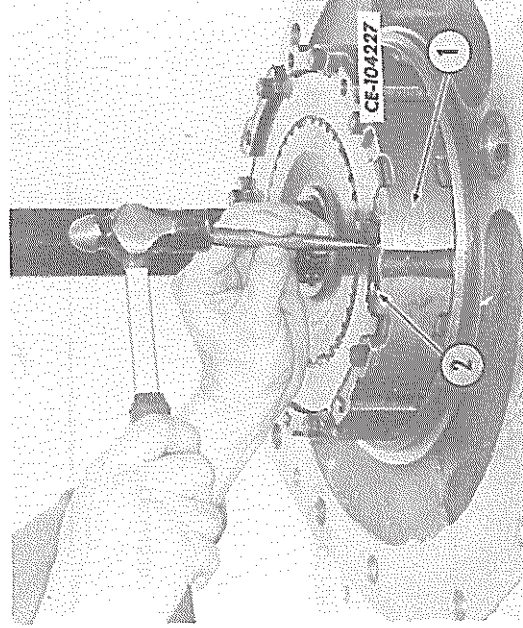
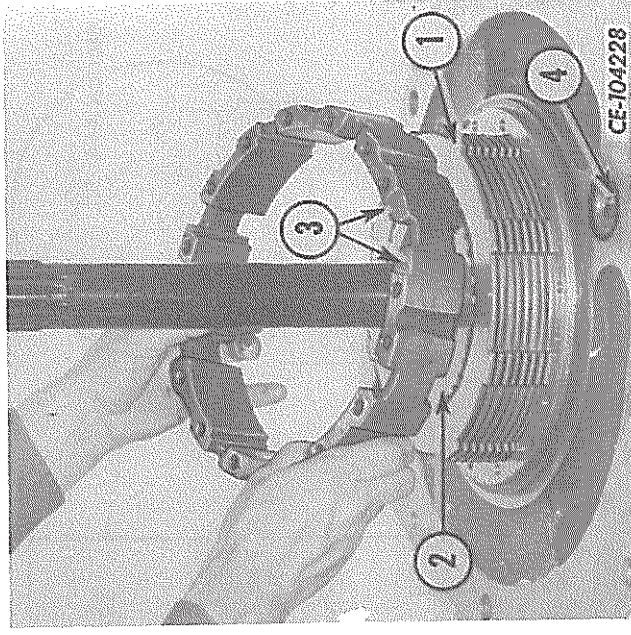

FIG. 59 — Marking the Retainer Mounting Bolt Holes
FIG. 60 — Removing the Separator Plate Retainer
4. Before removing the bolts securing the separator plate retainer (1 Fig. 59) to the carrier, punch mark the bolt holes to prevent confusing them with the pressure plate bolt holes (2) in the retainer when reassembling these components.
5. Remove the separator plate retainer from the carrier (Fig. 60). Lift the friction plates and separator plates (1) from the brake hub (2).
2. Secure the separator plate retainer (Fig. 60) to the carrier using the punch marked holes made during disassembly (Fig. 59). Torque the mounting bolts to 50-53 N.m (37-39 lbf ft). To prevent interference with the actuating lever when the assembly is installed in the unit, the retainer must be installed so the milled slot (3, Fig. 60) is facing away from the carrier and toward the cooling port (4).